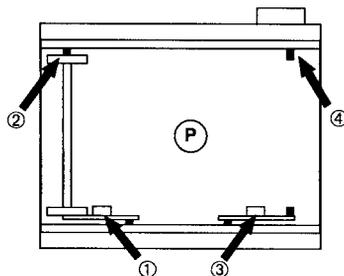

Figure 6. Remove the empty film spool.
- Step 1: Remove the empty spool from the left side of the cartridge. Lift the left metal tab (① in Figure 6) to loosen the spool, then remove the spool from the left upper film stud (②).
- Step 2: Lift the right metal tab (③ in Figure 6) and insert the empty spool onto the right upper film stud (④). Lower the tab and insert the lower film stud into the spool.